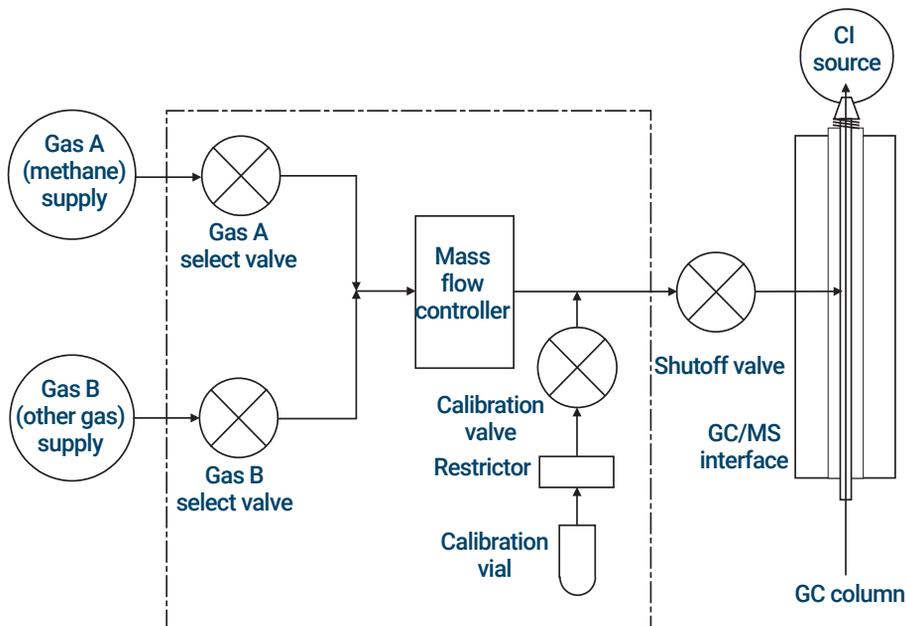

Figure 3. Schematic of CI flow control module
- 1 Look for the last seal that was disturbed. (See **Figure 3** on page 57 and **Table 4** on page 57.)
- Close valves starting at the gas select valves (Gas A, then Gas B), then close the shutoff valve. (See **Figure 3** on page 57 and **Table 4** on page 57.)